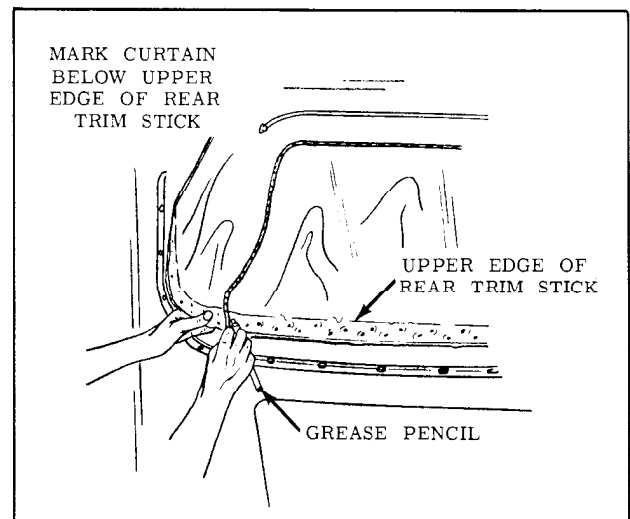

Fig. 17-24 Locating Edge of Top Material
8. To establish the relationship of right and left inner vertical edge of old top material to back curtain assembly at rear trim stick location, mark back curtain vinyl at both locations with a grease pencil. (Fig. 17-24) Reference marks should be transferred to